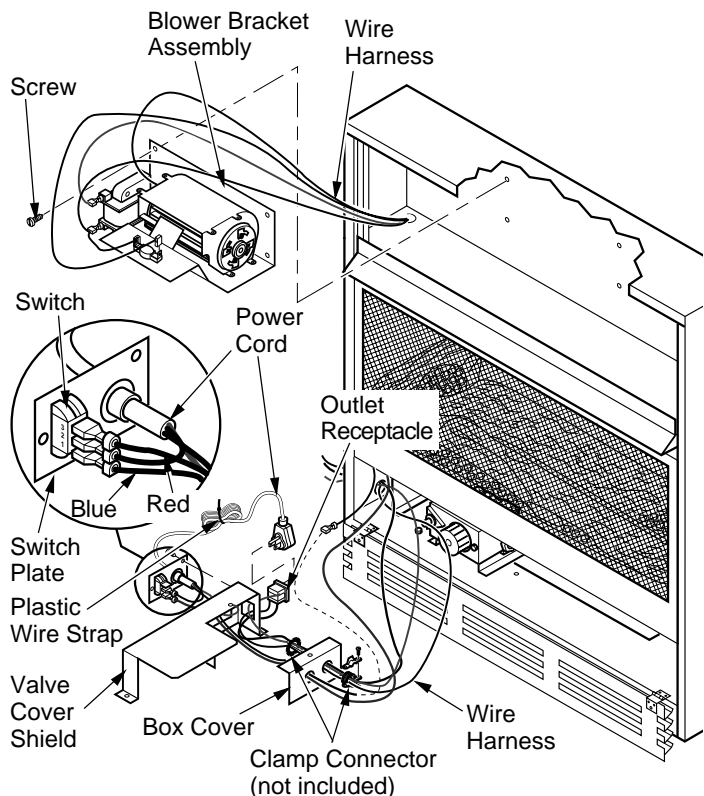

Figure 21 - Installing Blower Bracket Assembly
5. Plug power cord to the outlet receptacle (not provided) as shown in Figure 21. Wind the extra cable in power cord and tie it up with the plastic wire strap (see Figure 21). Set the cable bundle between the burner bracket and outer casing, away from the burner.